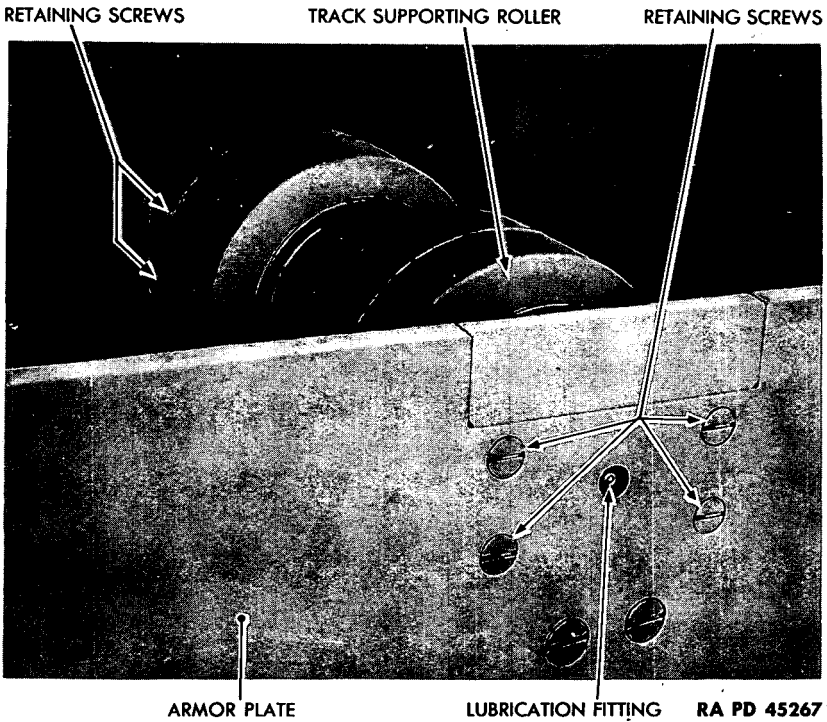

Figure 37—Installed Track Supporting Roller
b. **Removal of Track Supporting Roller (fig. 37).** Remove the retaining screws which secure the track supporting roller to the hull and to the track armor plate. Lift the track supporting roller up and out of the vehicle.
c. **Lubrication** (fig. 37). A lubrication fitting adaptable to a grease gun is installed in the end of the track supporting roller shaft. This projects through a hole drilled in the track armor plate, thus providing access to the lubrication fitting while the track is installed.